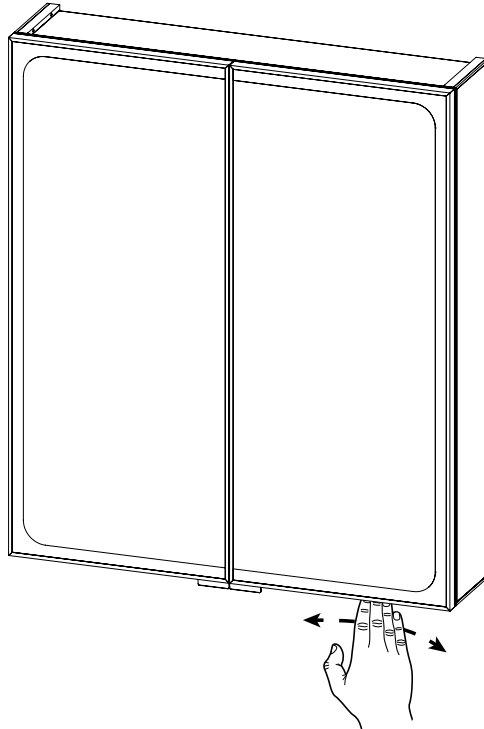

Fig 5. - Operation
1. Wave hand past the sensor switch located under the bottom right of the cabinet, *see Fig. 5.*